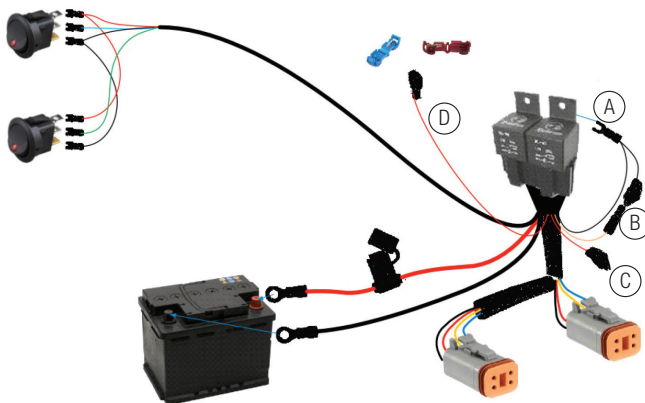

Figure 1: Dual switch harness installation
4. Secure thin black wire fitted with tongue terminal (A) (see fig. 1) to body frame obtaining a good earth (can use same screws used to secure the relays). Ensure orange / black wire is connected (B) for positive switching. See note 1 for negative switching